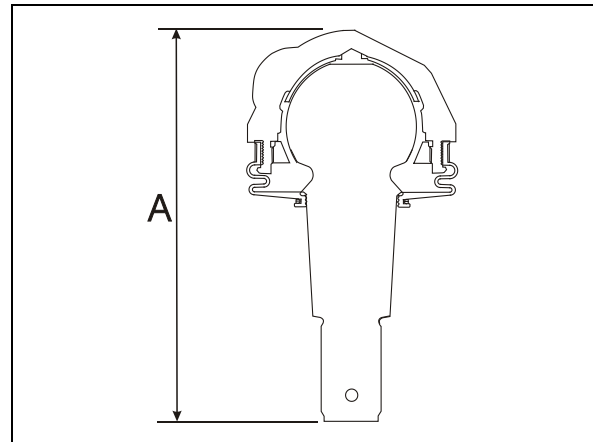

FIGURE 31: UPPER A-ARM BALL JOINT 16116
2. Using a caliper, measure dimension A on figure 31.